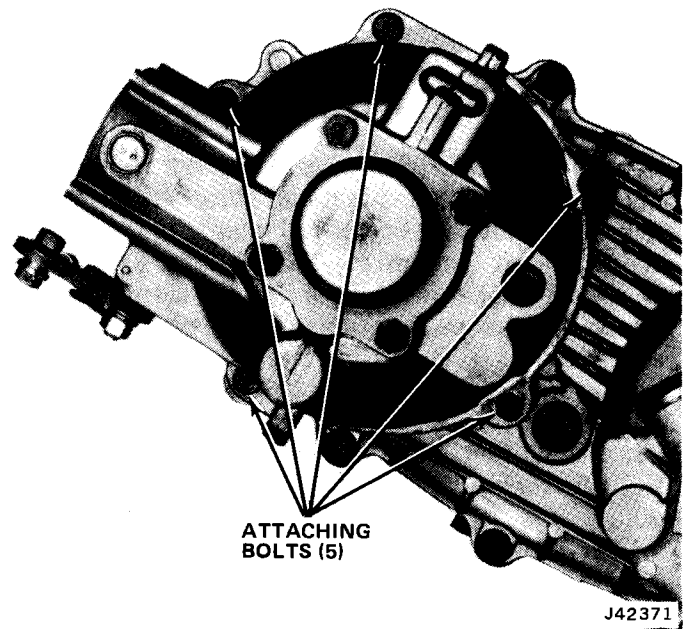

Fig. 8-21 Reduction Unit Attaching Bolts
- (1) Raise vehicle.
- (2) Loosen bolts attaching reduction unit to transfer case cover (fig. 8-21).
- (3) Move reduction unit rearward just far enough to allow oil to drain from unit.
- (4) Disconnect shift linkage at reduction unit control lever.
- (5) When oil has drained, remove bolts attaching reduction unit to transfer case cover.
- (6) Move reduction unit rearward to clear transmission output shaft and pinion cage which is attached to transfer case drive sprocket.